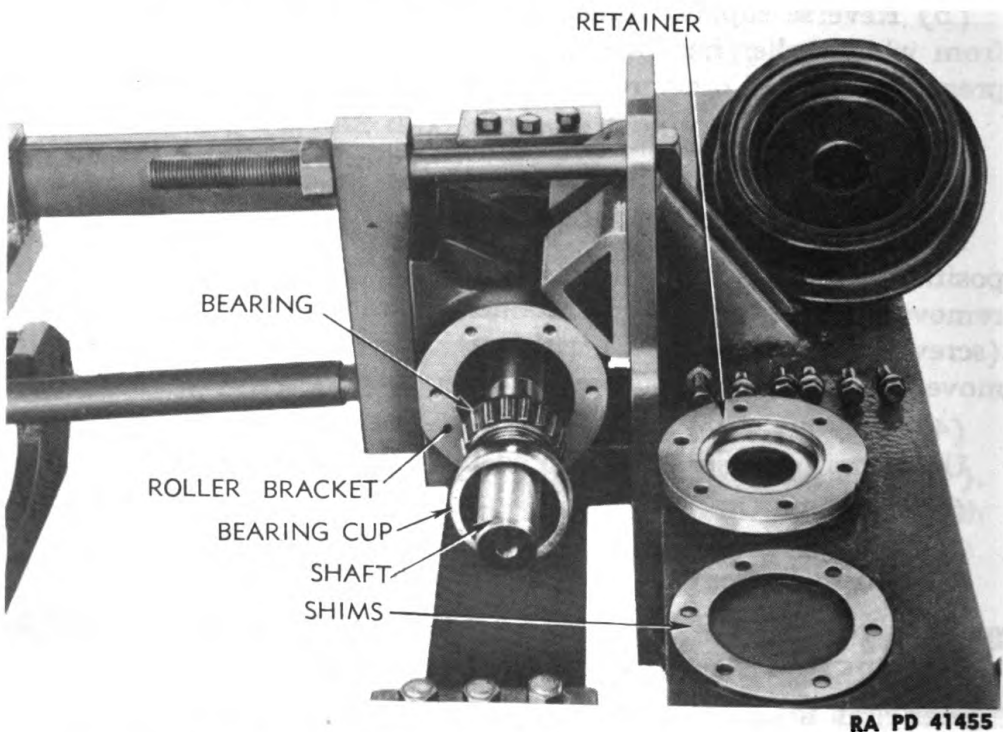

Figure 229 — Retainers, Shaft, and Bearings Removed
Place support roller bracket in vise of press (par. 83 b (3)), mark position of retainer on bracket with center punch and hammer, and remove six screws from the retainers in each end of roller bracket (screwdriver). Keep shims with retainer with which they were removed so parts may be assembled in their original position (fig. 229).
(4) REMOVE SHAFT AND BEARING ASSEMBLIES.